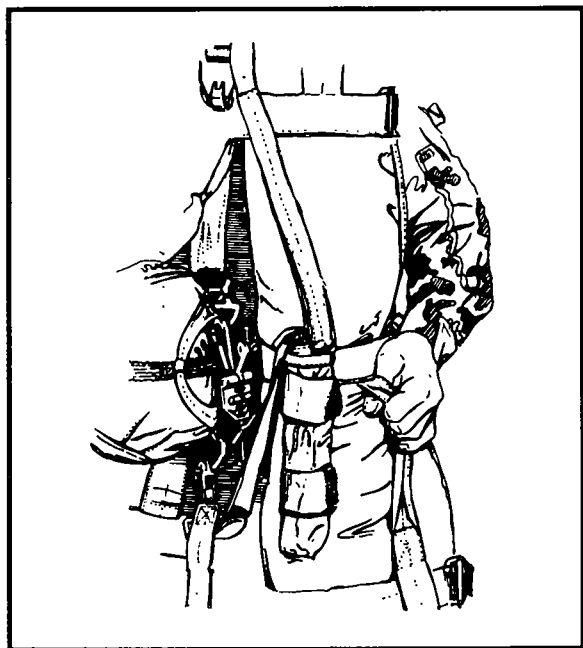

Figure 6-58. AT4JP secured.
- d. Secure the AT4JP by attaching the quick-release assembly to the left D-ring outboard of the H-harness snap (Figure 6-58). Ensure that the quick-release safety gate is closed and the quick-release snap is locked to the D-ring, and that the quick-release assembly release attachment sequence is inboard to outboard as follows: reserve, H-harness, and AT4JP quick-release snap.